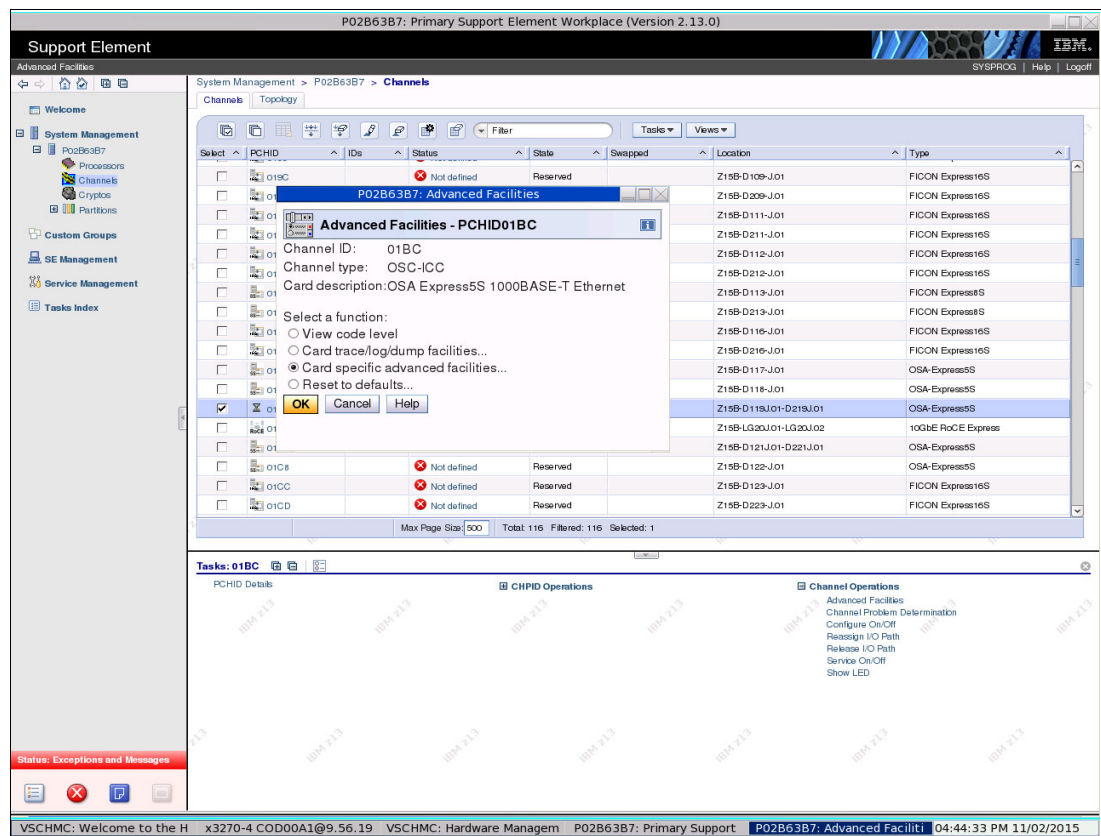

Figure 7-5 Advanced Facilities Panel of PCHID 1BC
3. We select **Advanced Facilities** in the lower right of the panel. The Advanced Facilities panel for PCHID 1BC opens. We select the **Card specific advanced facilities...** option and then, **OK**, as shown in Figure 7-5.